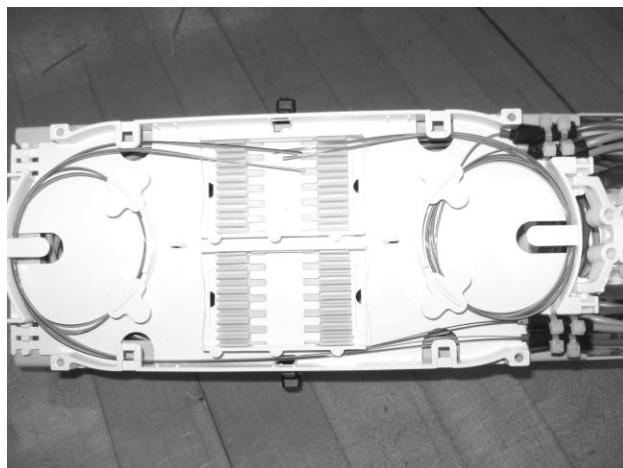

Figure 11 – Route the fiber slack into the splice tray.
4.16 Route the fiber slack into the splice tray as shown in Figure 11. Individual fibers can be routed into the splice organizer on the splice tray.